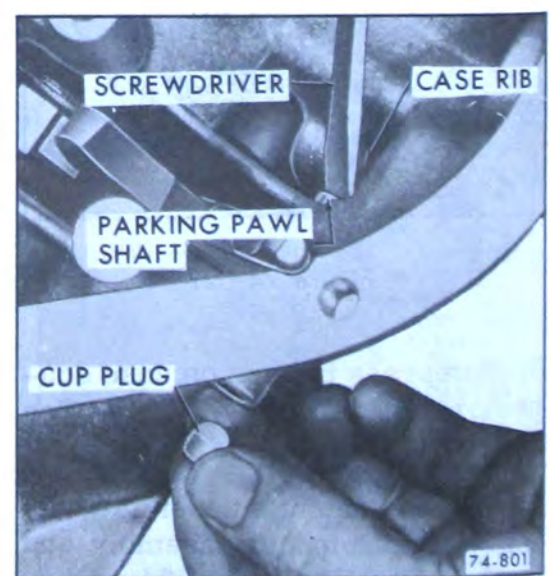

Figure 74-534
i. Remove parking pawl shaft cup plug by inserting a screwdriver between the parking pawl shaft and the case rib, and prying outward. See Figure 74-534.